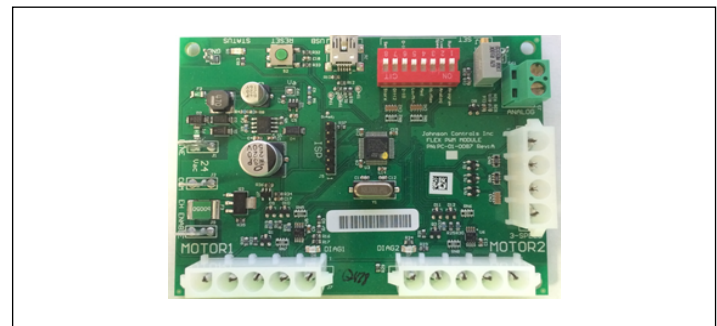

Figure 25 – G3 PWM Board
- Locate the G3 PWM board within the control enclosure (See Figure 25).